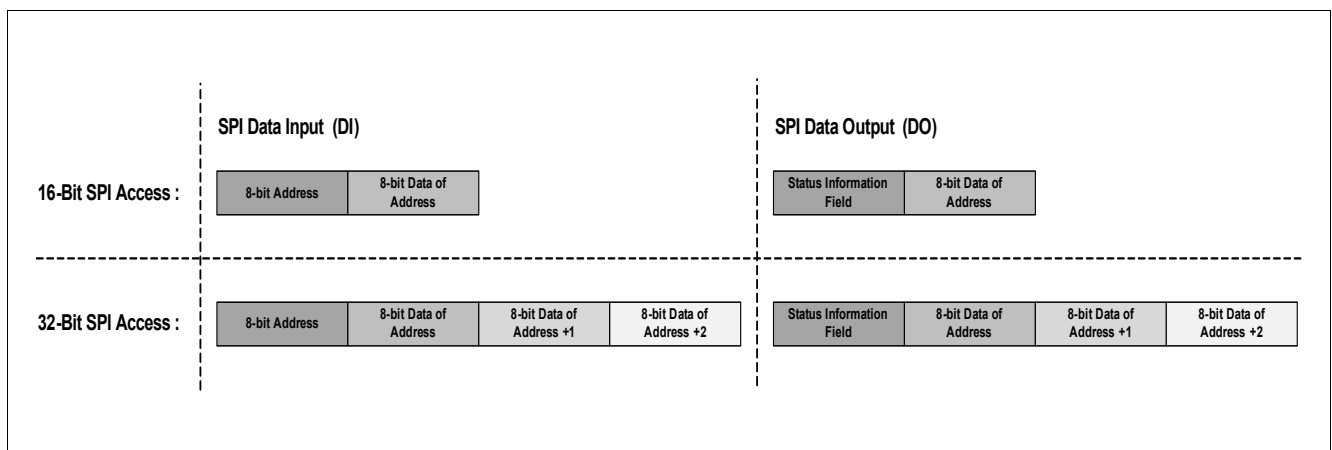

Figure 46 Data access for 16- and 32-bit SPI commands
The TLE9471-3ES V33 is supporting multi-slave operation in full-duplex mode with 16-bit and 32-bit data access (see also Figure 46).
The operation of the 16-bit and 32-bit SPI data access is shown in Figure 46.
- The numbering of following bit definitions refers to the data byte and correspond to the bits D0...D7 and to the SPI bits 8...15. In case of 32-bit SPI commands, the data bytes from the next valid address are accessed (see also Figure 46).